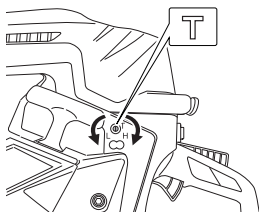

Fig. 30
Idle speed adjustment (T) (Fig. 30)